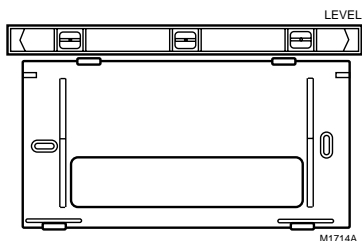

Fig. 2. Leveling mounting plate.
3. Level for appearance only; the thermostat will function properly even when not level. Tighten mounting screws. See Fig. 2.